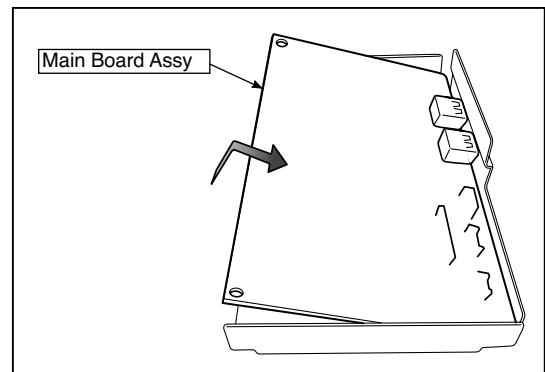

Fig.5
- 5.When replacing the Main Board Assy shown in the figure 5, insert the Main Board Assy from the oblique direction so that the parts mounted at the rear of the Main Board Assy are not damaged.